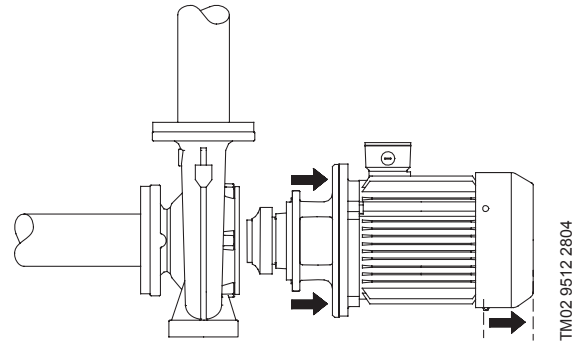
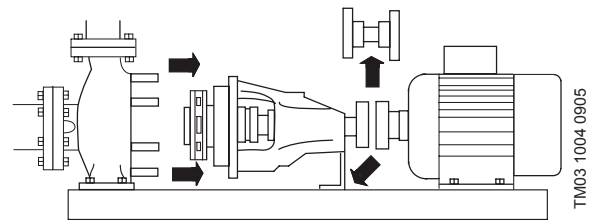

Fig. 1 NBG back pull-out design
Fig. 2 NKG back pull-out design
- The pumps are of the back pull-out design enabling removal of the motor, coupling, bearing bracket and impeller without disturbing the pump housing or pipework. Even the largest pumps can thus be serviced by a single person with a crane. See fig. 1 and fig. 2.